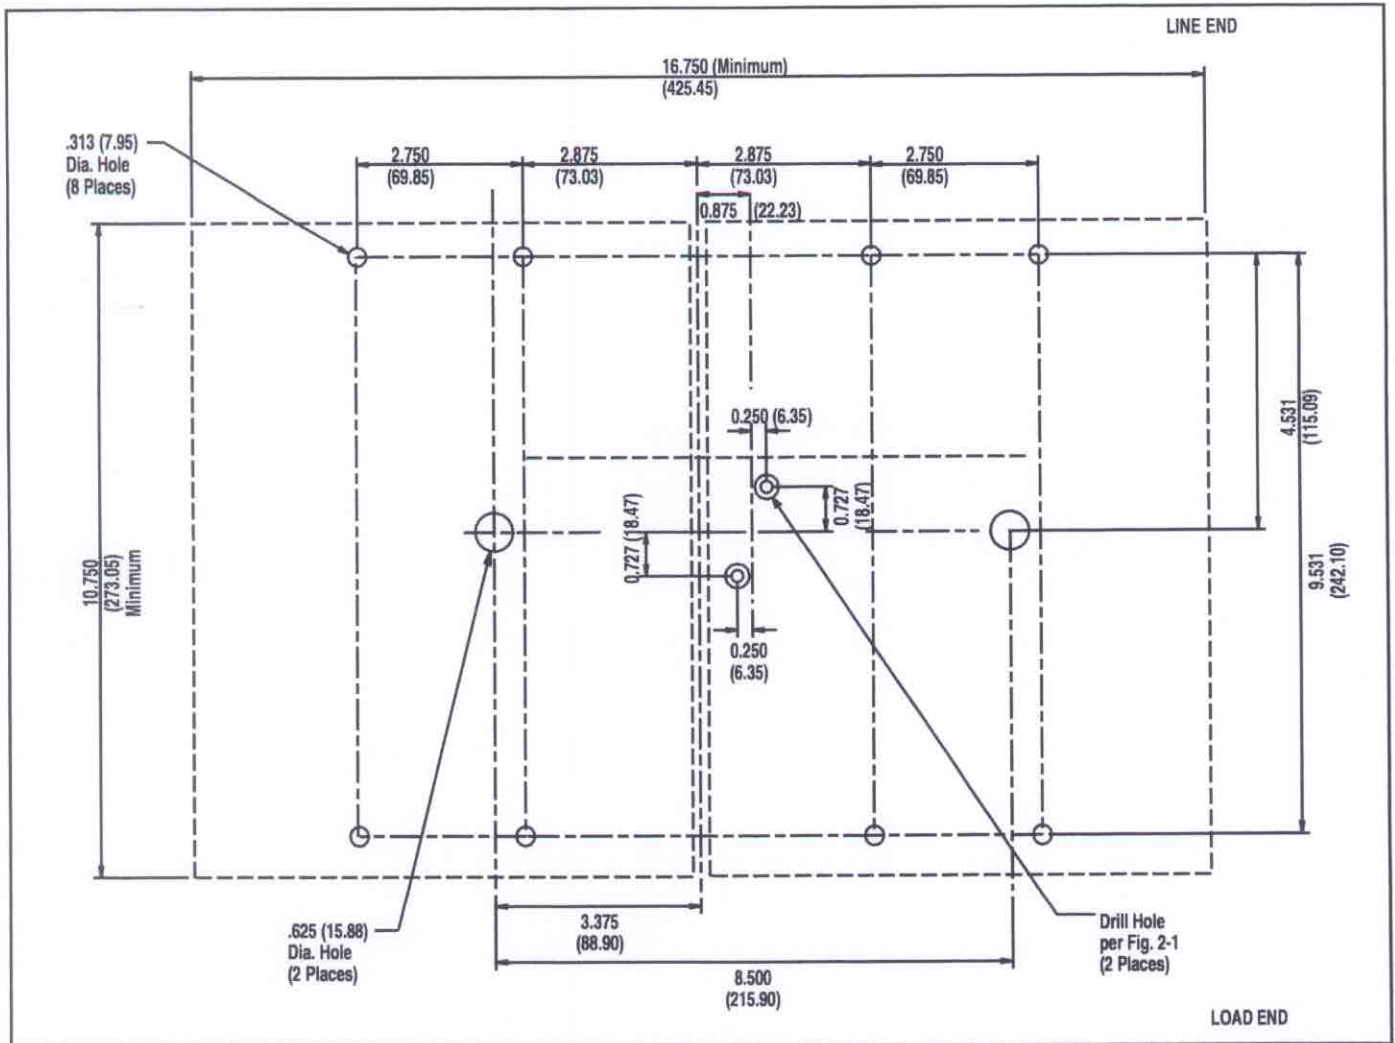
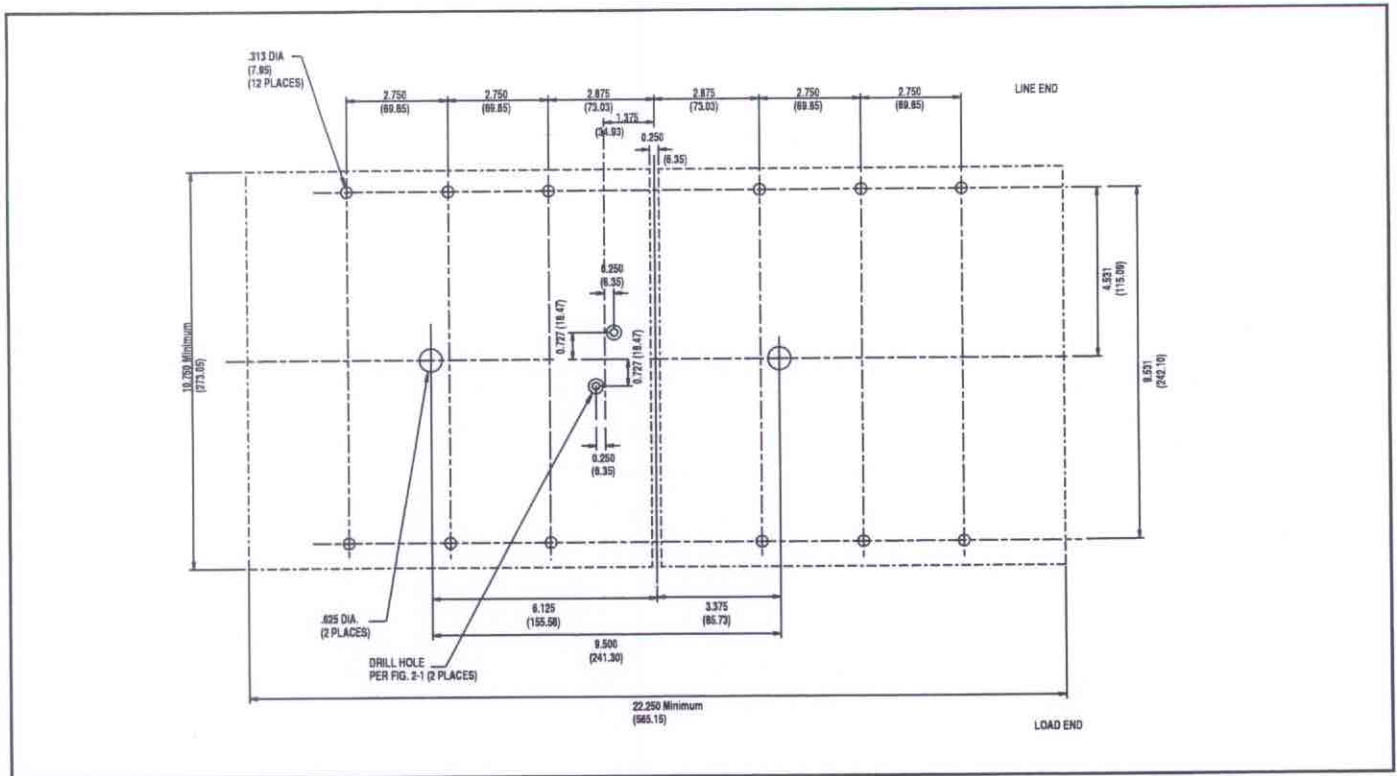
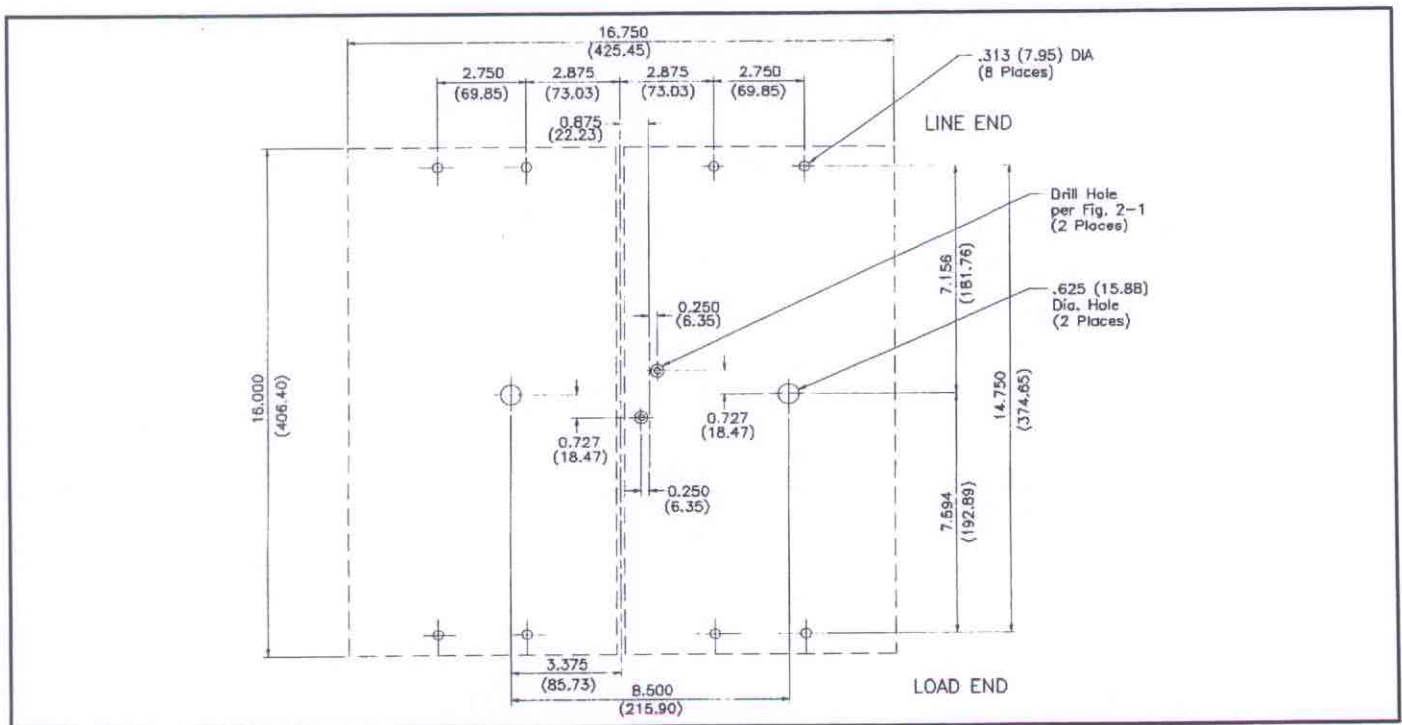

Fig. 2-2 L-Frame 2- and 3-Pole Circuit Breaker Mounting Panel Hole Sizes and Dimensions, Viewed From Breaker Side of Panel
Fig. 2-3 L-Frame 4-Pole Circuit Breaker Mounting Panel Hole Sizes and Dimensions, Viewed From Breaker Side of Panel
Fig. 2-4 MDL-Frame Circuit Breaker Mounting Panel Hole Sizes and Dimensions, Viewed From Breaker Side of Panel
- 2-2. Pre-drill circuit breaker mounting panel. Fig. 2-2 (L-frame, 2- and 3-pole) and Fig. 2-3 (L-frame, 4-pole) and Fig. 2-4 (MDL-Frame) show mounting panel hole sizes and dimensions for Series C circuit breaker configurations. Dimensions are in inches and (millimeters).